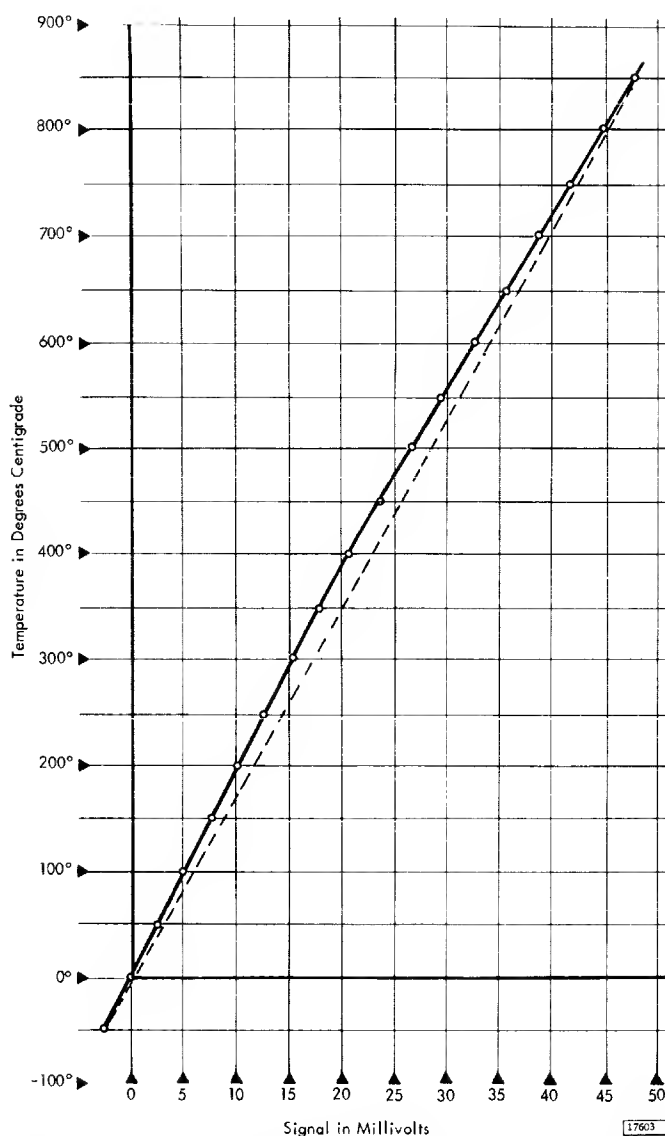

Figure 33.1. Iron-Constantan Thermocouple for  $-50^{\circ}\text{C}$  to  $+850^{\circ}\text{C}$  Range
1. Study the thermocouple temperature-to-millivolt curve and determine the number of segments or divisions that must be made to obtain the desired degree of accuracy. For example, the iron-constantan thermocouple curve shown in Figure 33.1 covers a temperature range of  $-50^{\circ}$  to  $+850^{\circ}\text{C}$ . This range may be divided into nine segments as